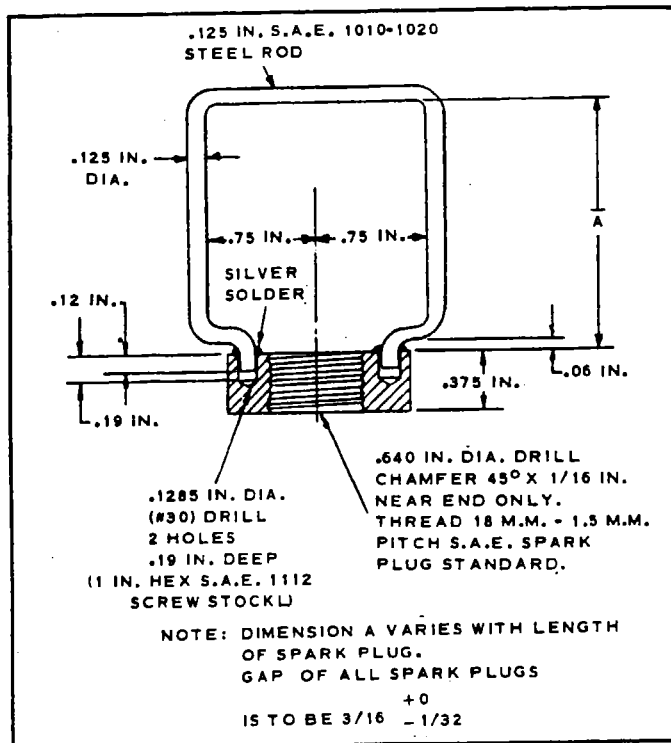

Figure 13-9. Spark Plug Fixture
- d. A spark gap of 0.187 inch. A convenient means of arranging the correct spark gap is to install a spark plug, P/N 39D18 in a test fixture arranged to provide a ground electrode and a .187 inch spark gap. (Refer to Figure 13-9 for information on fabricating this fixture.)
Any one of several spark plugs may be used with the spark plug fixture detailed in Figure 13-9. However, the "A" dimension in that sketch must be varied with the length of spark plug electrode to provide a gap of .187 inch for all spark plugs.